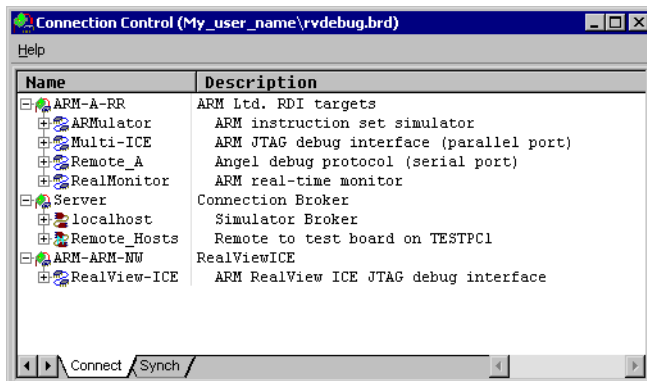

Figure 6-9 Remote target in the Connection Control window
1. Display the Connection Control window to see the new remote connection. An icon identifies that this connection uses a hosts file to store configuration details, shown in Figure 6-9.